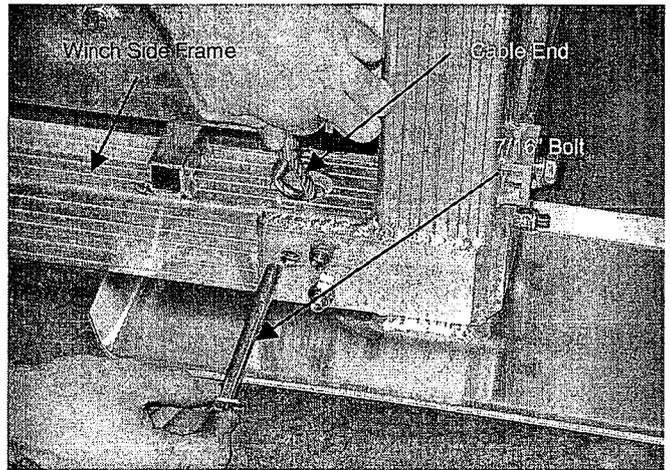

FIG. 14
1. Locate the cable end protruding from the carriage cross beam (See FIG. 14, 15).